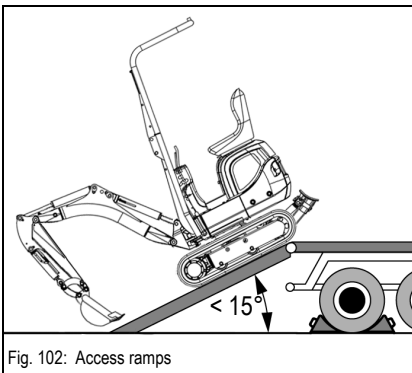

Fig. 102: Access ramps
- Rotate the upper carriage to the rear (see figure 102)